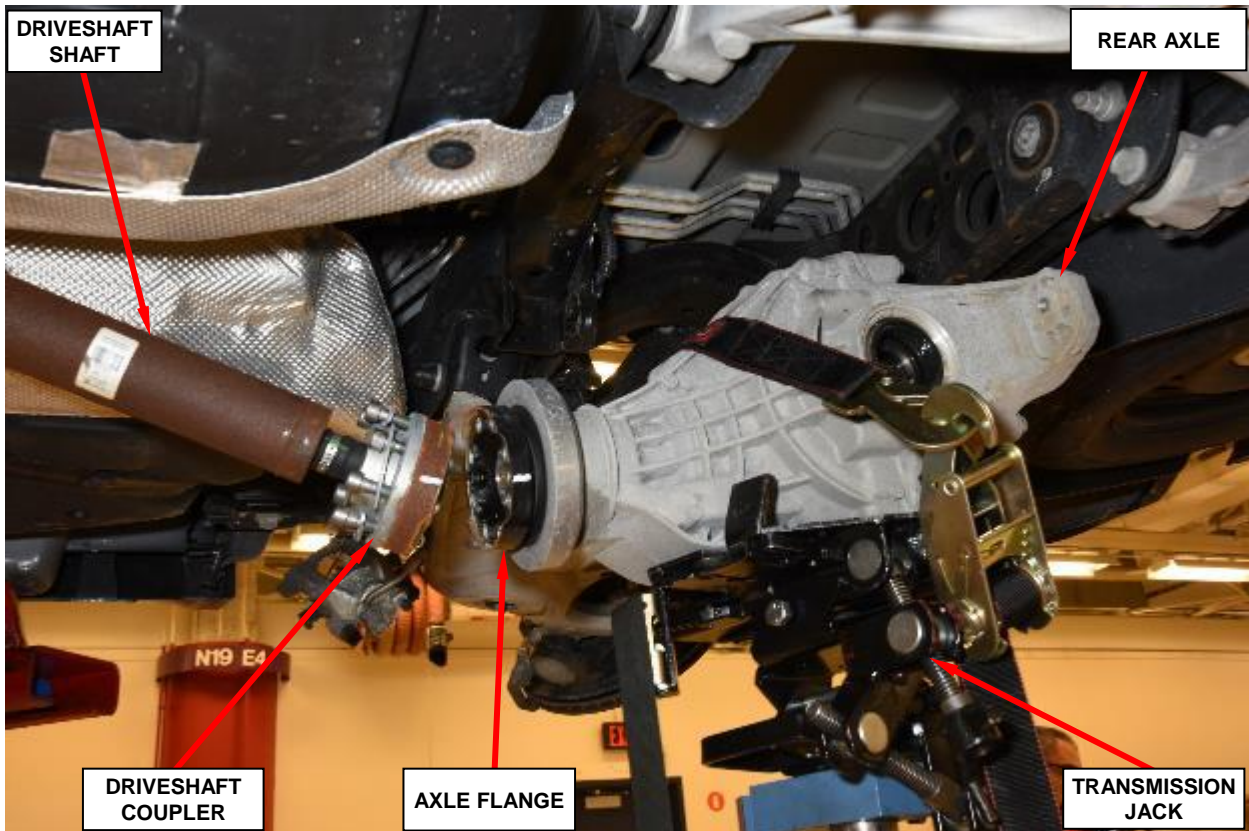

Figure 23 – Rear Axle
35. Carefully lower rear axle (Figure 23). While lowering axle, separate driveshaft from axle and support with suitable rope or wire.
11. Align the driveshaft coupler to the axle flange while raising the axle into position (Figure 23).